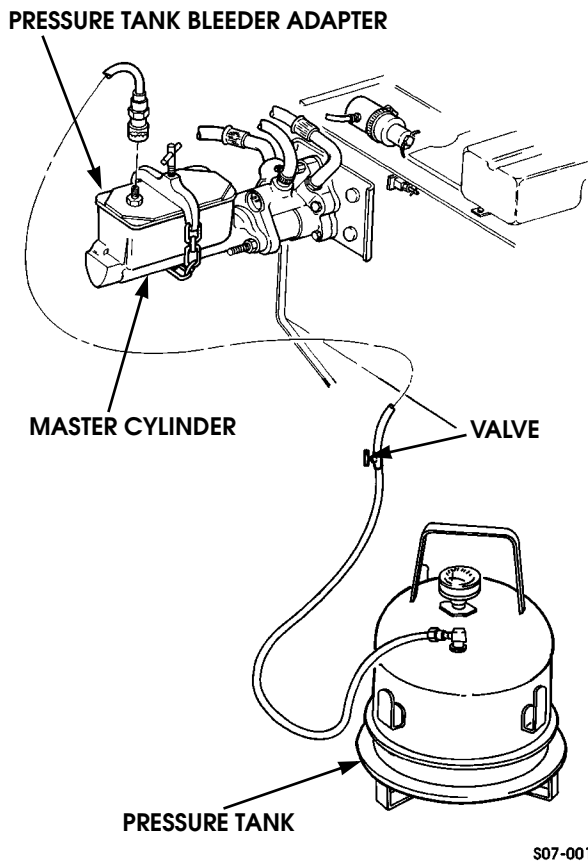

Figure 7-4: Pressure Bleeding Brake System
2. Install pressure tank bleeder adapter to master cylinder (Figure 7-4).
6. Open valve on line from pressure tank to master cylinder allowing pressurized brake fluid to enter system (Figure 7-4).
9. Close valve on line from pressure tank to master cylinder (Figure 7-4).